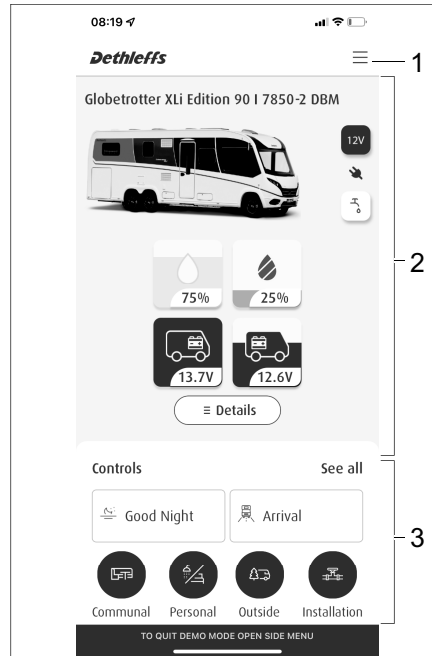

Fig. 289 Dethleffs Connect App design
- Menu section (Fig. 289,1)
- Vehicle information (Fig. 289,2)
- Handling and scenarios section (Fig. 289,3)